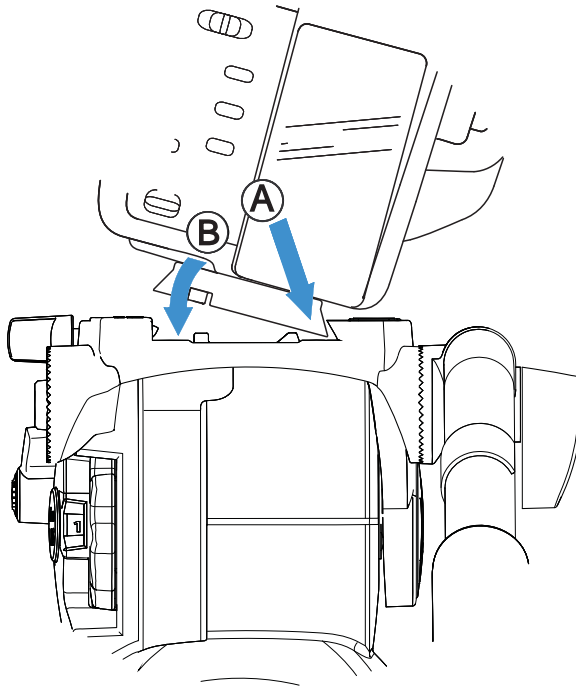

Fig. 5 Mounting the camera onto the head
Lower the camera onto the camera mounting platform (Fig. 5) ensuring that the edge of the camera slide plate (16) opposite the slide clamp (13) engages first, and then push downward until the slide clamp 'snaps' into position.